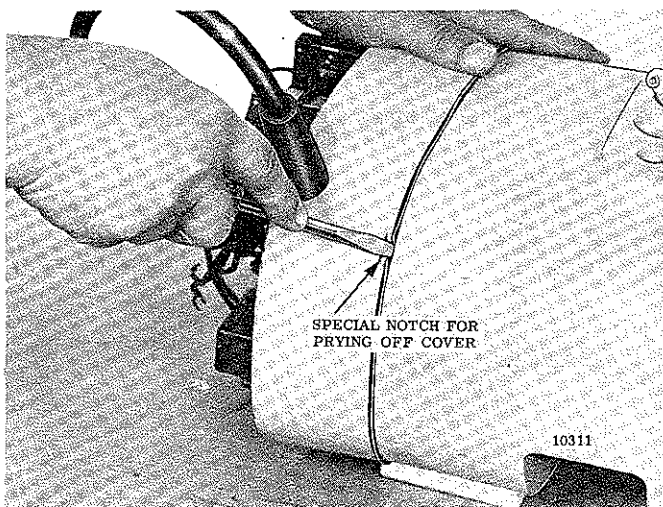
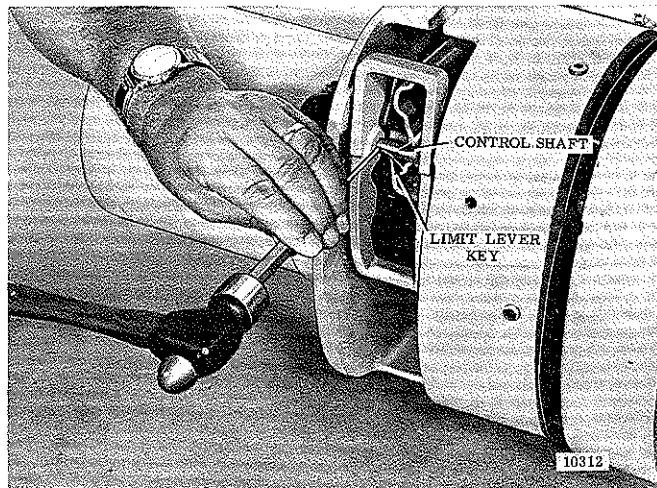
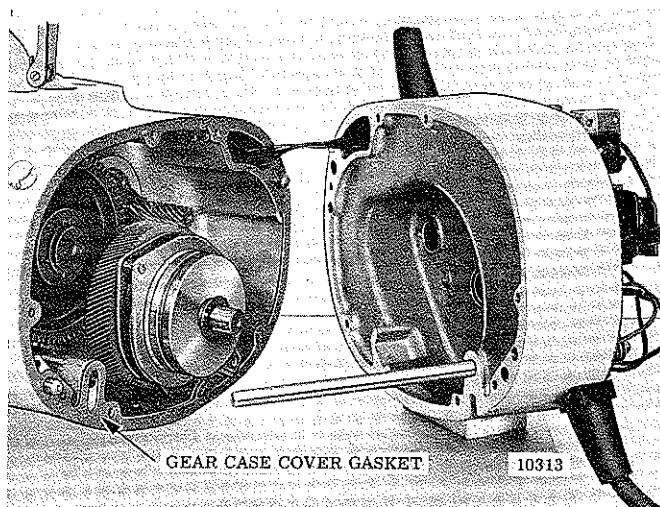

Figure 7-5. Prying Gear Case Cover From Hoist Frame
Figure 7-6. Removing Limit Lever Key From Control Shaft
Figure 7-7. Gear Case Cover With Electrical Controls Removed From Frame
(5) Remove eight hex socket head screws and lockwashers securing gear case cover to hoist frame. Pry gear case cover partially off hoist frame using screw driver at special notches provided at opposite corners of cover (fig. 7-5) to provide access for removing limit lever key from control shaft. Tilt Woodruff key in shaft slot using drift punch (fig. 7-6) and pull out using pliers. Gear case cover with electrical controls attached can now be lifted from frame (figures 7-7). Limit lever will drop free of frame as shaft is removed with cover. Discard gear case cover gasket.